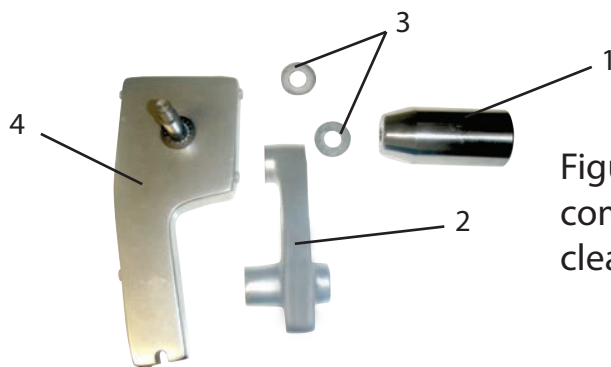

Figure 3
f. Last Slice Device: Unscrew the knob (Figure 3 [1]) and detach the support (Figure 3 [2]) and gaskets (Figure 3 [3]) from the Last Slice Device (Figure 3 [4]). Set items aside for cleaning.